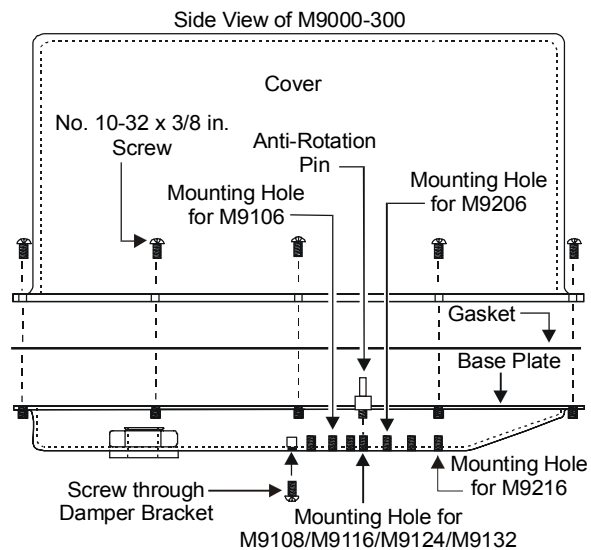
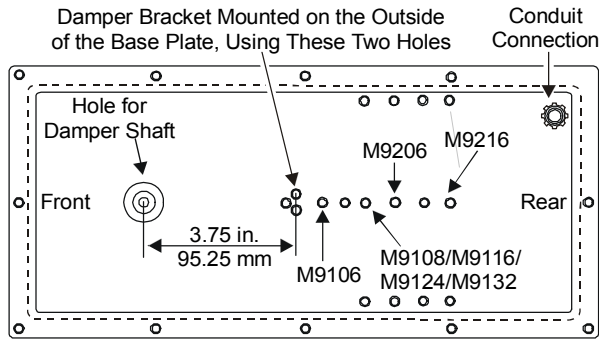

Figure 3: Components of the M9000-300
Figure 4: Mounting the Actuator to the Base Plate
1. Remove the screws from the cover, and remove the cover from the base plate and the gasket. (See Figure 3.)
2. Install the anti-rotation pin or bracket in the appropriate hole to accommodate the M9000 actuator used. (See Figure 4.)
Note: If the anti-rotation pin or bracket was installed in the correct hole for the actuator (shown in Figure 4), the hole for the damper shaft in the base plate should align with the damper shaft opening in the actuator coupler. If not, repeat Steps 2 and 3.
6. Refer to Figure 3, and secure the damper bracket shown in Figure 5 to the base plate of the enclosure, using two No. 10-32 x 3/8 in. screws provided. (See Figure 4 for the location of the holes in the base plate.)